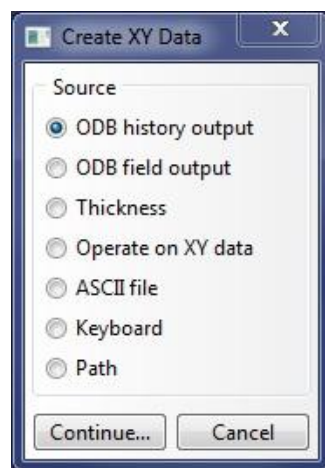
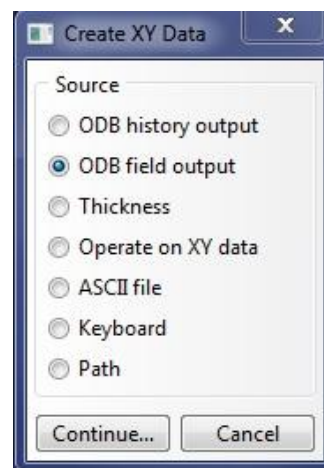

Figure 37a. Create XY Data Dialog Box
Figure 37b. Create XY Data Dialog Box (FIELD)
- To obtain the stresses in an element click the **Create XY Data** icon  in the **Visualization** module. The **Create XY Data** dialog box will appear (Figure 37a). Choose the **ODB field output** option (Figure 37b).